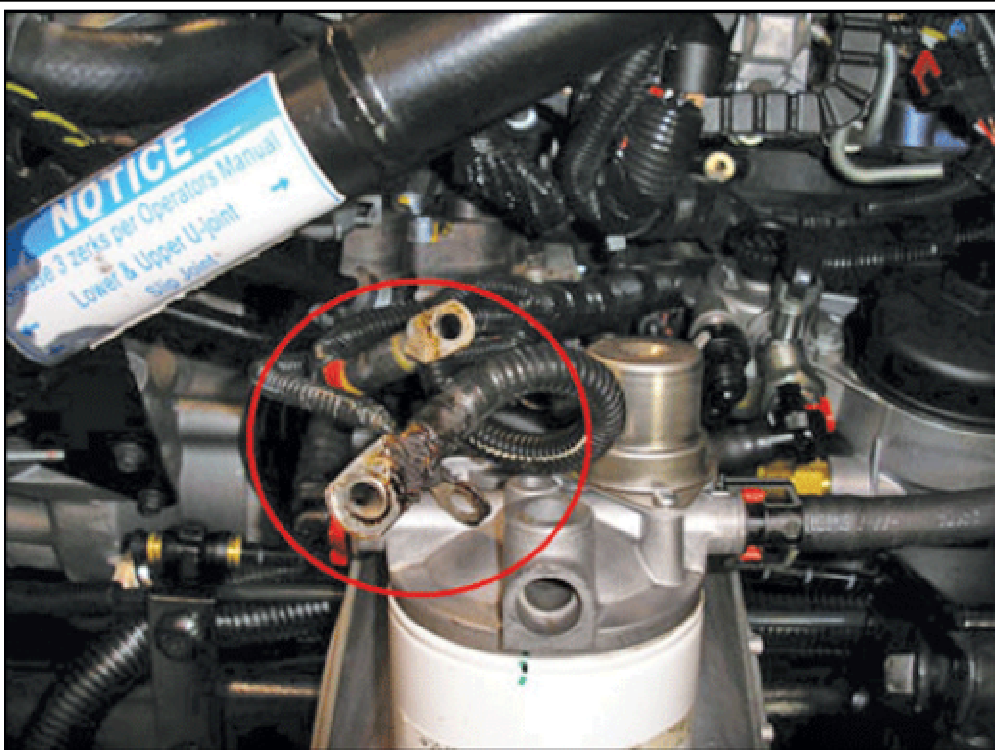

Figure 7
7. Remove alternator harness ends from the alternator so the alternator cables can be re-routed (Figure 7).